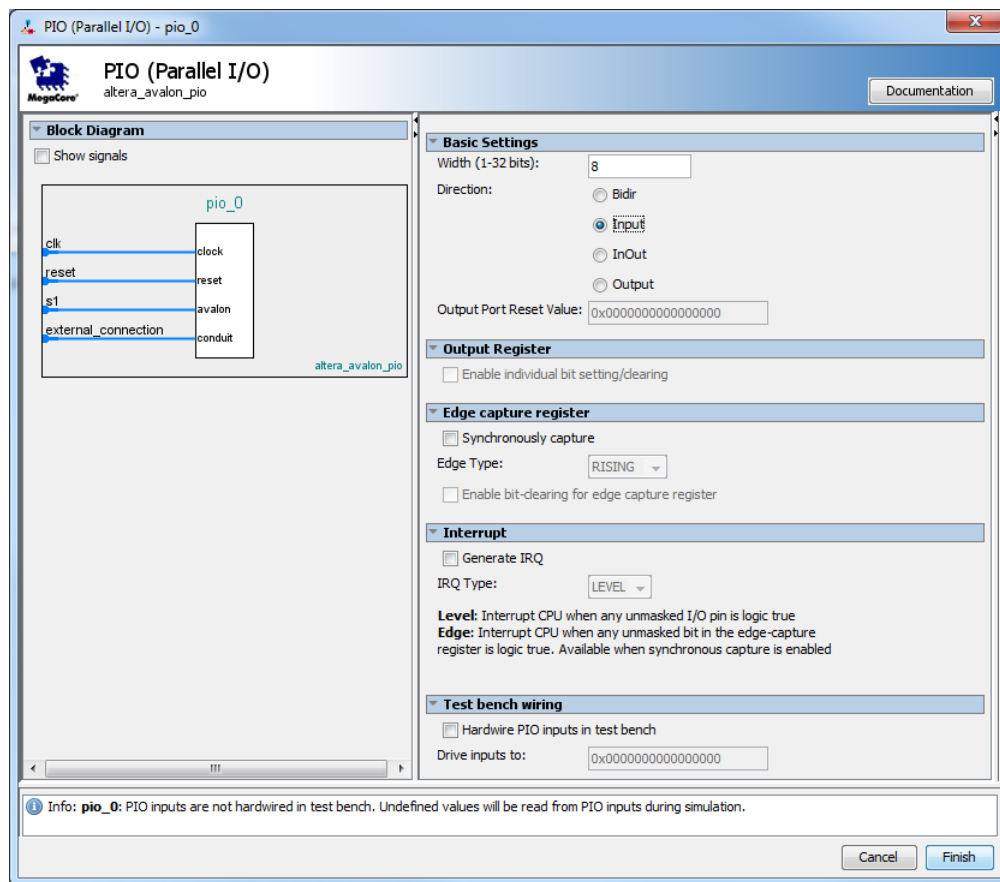

Figure 12. Define a parallel input interface.
- Select Processors and Peripherals > Peripherals > PIO (Parallel I/O) and click Add to reach the PIO Configuration Wizard in Figure 12